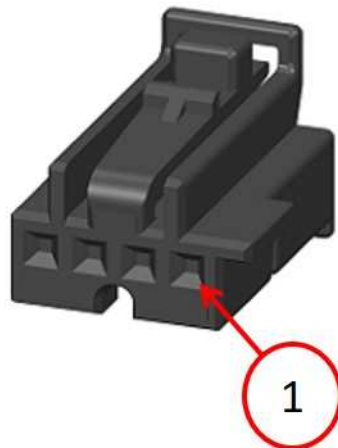

Fig. 1
6. Using the jumper wiring harness, connect one end of the jumper harness to cavity number one (L24) on the sun sensor connector (Fig. 1) .